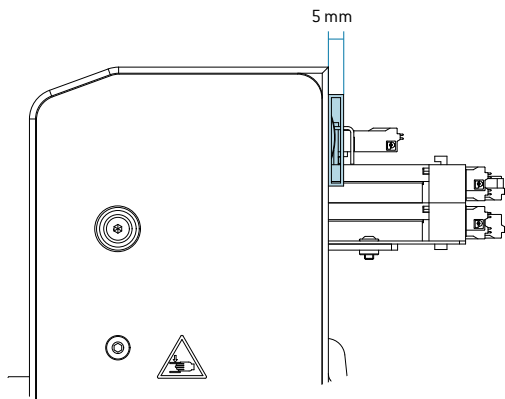

Fig. 200
- For mounting the receiver on a customer mounting plate, the spaces marked in Figures 200 and 201 must not be installed.